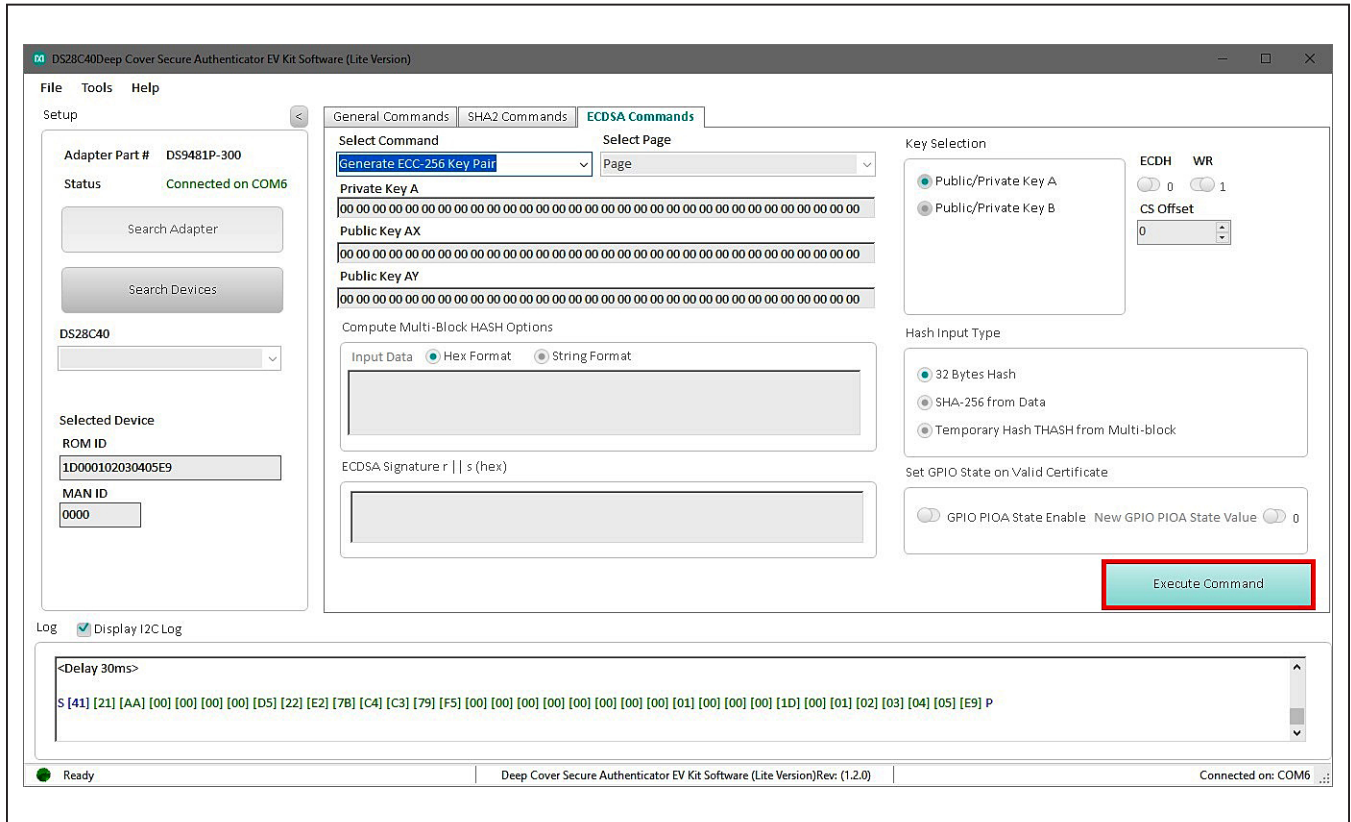

Figure 25. Execute Generate ECC Key
3) Click the **Execute Command** button (Figure 25).